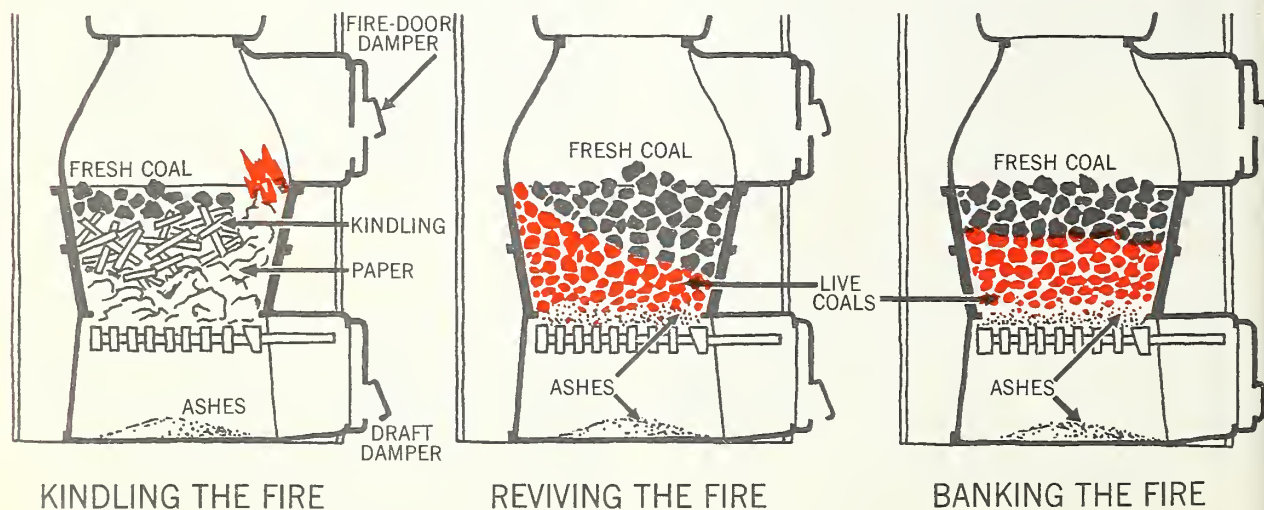
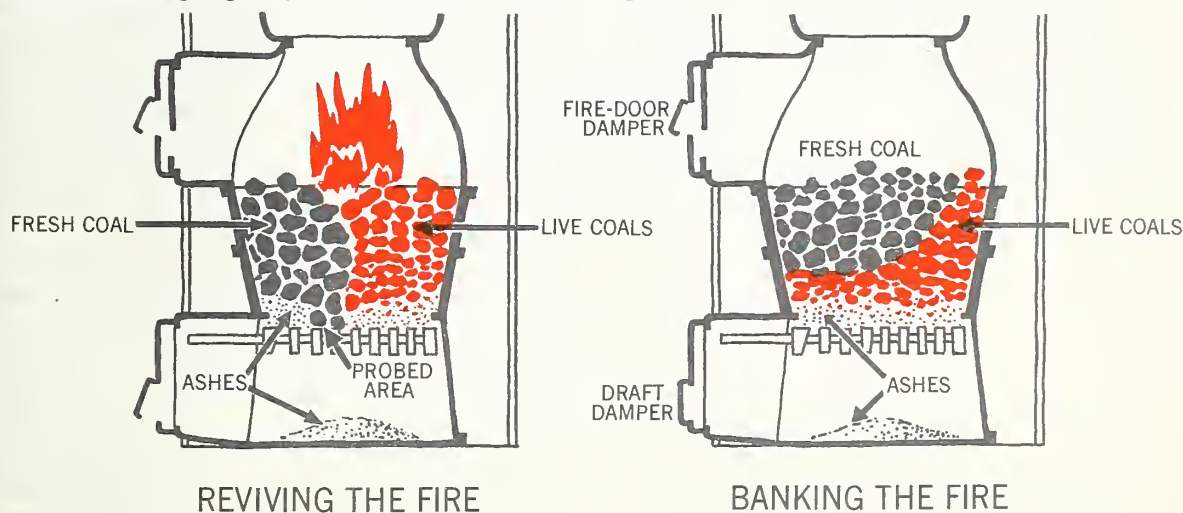

Figure 18.—Firing anthracite.
Figure 20.—Firing bituminous coal.
**Firing anthracite (fig. 18).**—When kindling the fire, place paper and charcoal or wood on the grate
**Firing Bituminous Coal (fig. 20).**—A bituminous-coal fire is kindled much the same way as an anthracite fire (fig. 18).